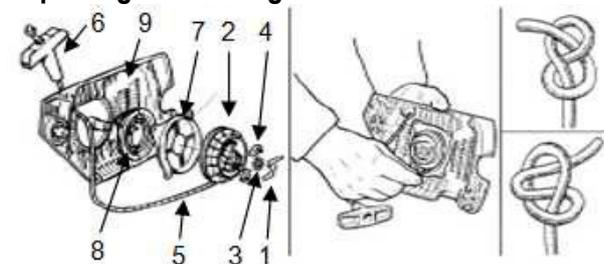

Figure 9
- Using a screwdriver, remove the small spring (1), the washer (3) and the latch (4) and then remove the drum (2).
- Insert the new starting cord (5) (diameter 3.5x960 mm). Fasten it with a simple knot on the drum (2), pull it through the housing (9) and the handle (6) and then tie another knot according to figure 9.
Changing the spring (fig. 9)